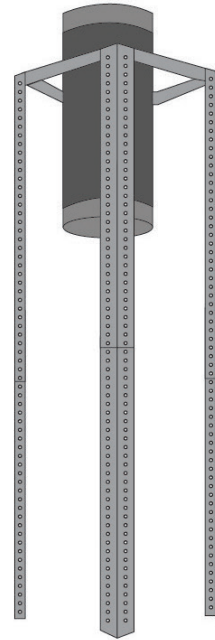

Figure 4
- Let the ducting pipe go inside through the hole from the ceiling (see Figure 4).